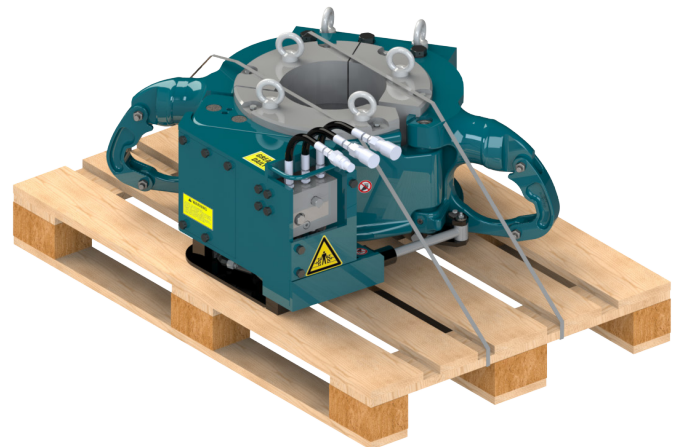

Fig. 11: Secured SDL 150-H
- » FORUM Handling Tools recommends to use slings („Fig. 11: Lifting points of the SDL 150-H“ on page 32).